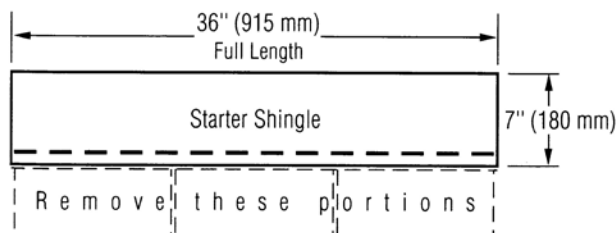

Figure 15-7: Make starter shingles by removing the lower 5" tabs.
1. Use standard three-tab self-sealing shingles as the starter shingles, after removing the lower 5" tab portions (Figure 15-7).